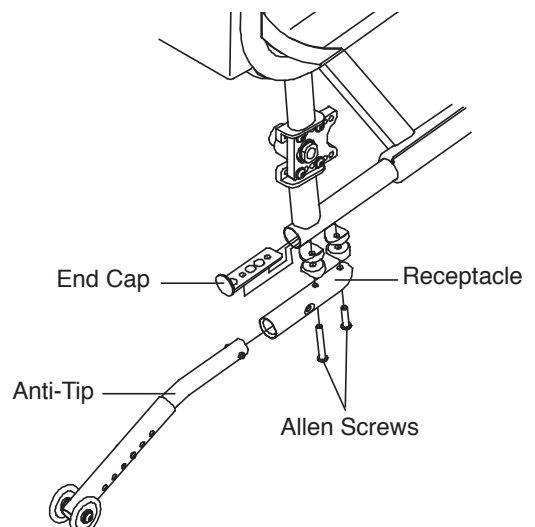

Figure 109
2. Remove the plastic end cap from the bottom frame tube as shown in Figure 109.
3. Install the anti-tip receptacle as shown in Figure 109.